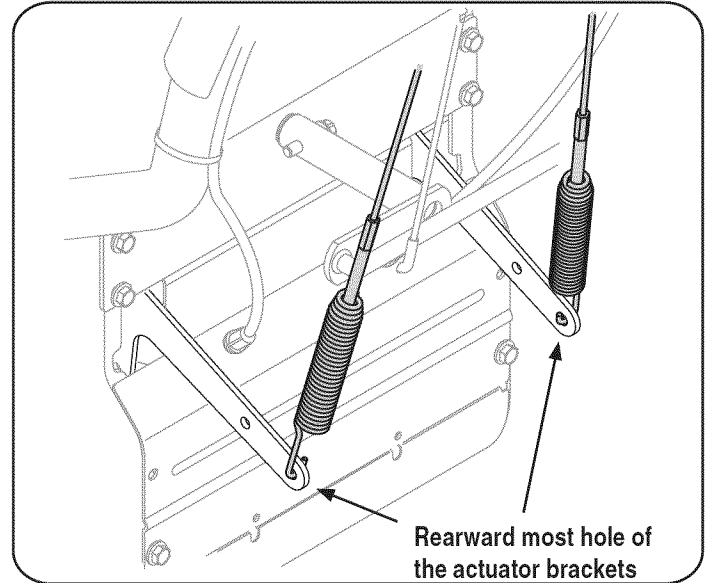

Figure 12
1. From beneath the handle, pull downward on the appropriate cable and unhook the spring found on the end of the cable from its respective actuator bracket. Refer to Fig. 12 and 13.